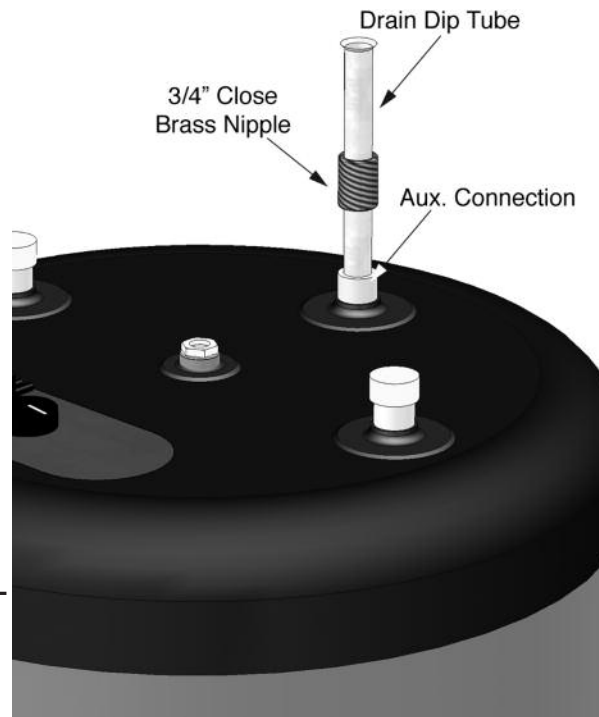

**Fig. 1: Standard Installation Domestic Piping SMART Series**
- Install a tee connection at the domestic cold water inlet (Fig. 1 and 2 page 8).
- Each tank should be piped with a drain as shown in Fig. 1.